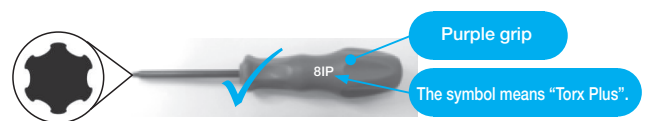

Fig. 1 "Torx Plus" Wrench (For MEW)
- 1) Ref. to Fig. 1 for "Torx Plus" Wrench. (Purple grip)